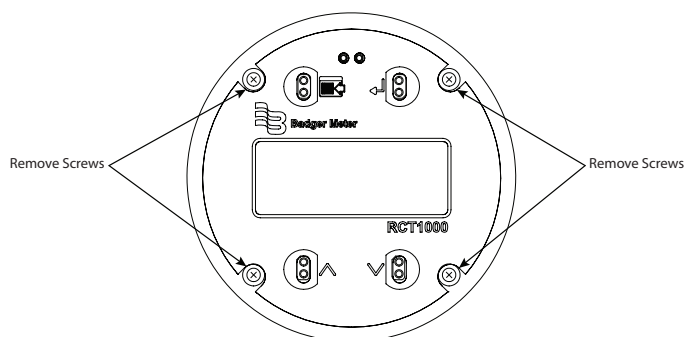

Figure 32: Phillips head screws
3. Use a Phillips screwdriver to remove the 4 screws holding the display board to the standoffs (hold display board as the last screw is removed so the board does not drop down when mounted vertically). See Figure 32.